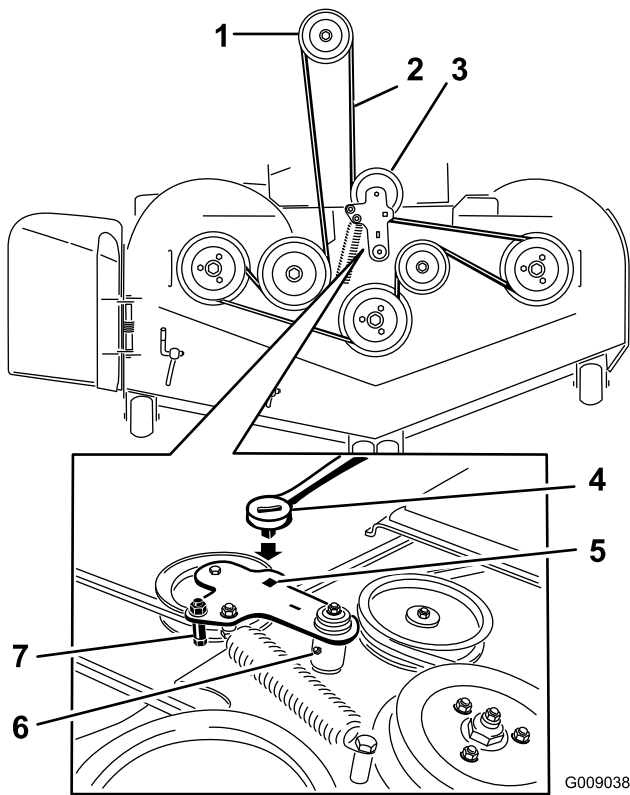

Figure 105
5. Lift up the floor pan and insert a ratchet into the square hole in the deck idler (Figure 105).
6. Rotate the deck idler clockwise and remove the mower belt (Figure 105).